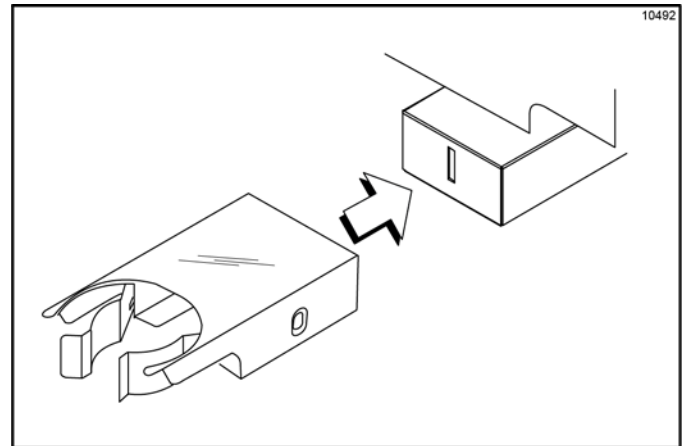

Figure 6-59
- Install the shake cup holder. (See Figure 6-59)